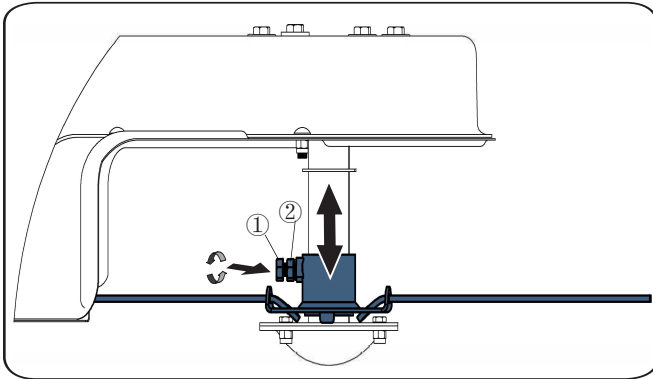

Figure 5-1
- Slide the spindle upward or downward to the desired position before retightening the bolts ① and nut ②. See Figure 5-1. (Note: bolts must be tightened with the spindle when starting the equipment.)